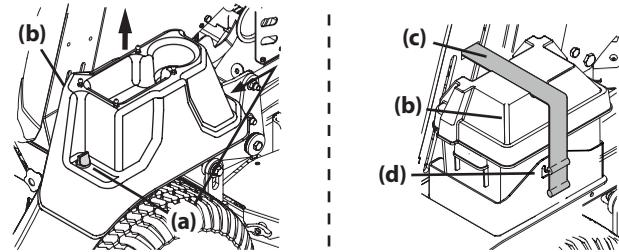

Figure 22
- Mowers with 48, 54 or 60 Inch Decks - Remove the two thumb screws (a) securing the battery cover (b) to the right fender. Lift up to remove the battery cover (Figure 22).
- Mowers with 36 Inch Decks - Unhook the rubber strap (c) securing the battery cover (b) to the battery tray (d). Lift up to remove the battery cover (Figure 22).